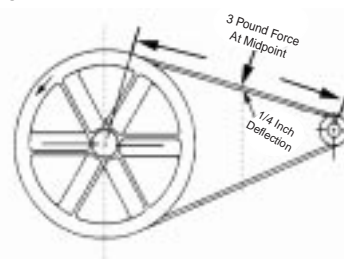

Figure 5 - Correct Belt Tension
4. Measure correct belt tension. Proper tension is achieved when a three (3) pound weight or equivalent finger pressure is applied midway between the motor pulley and compressor flywheel causes a 1/4" deflection of the belt. Refer to Figure 5.